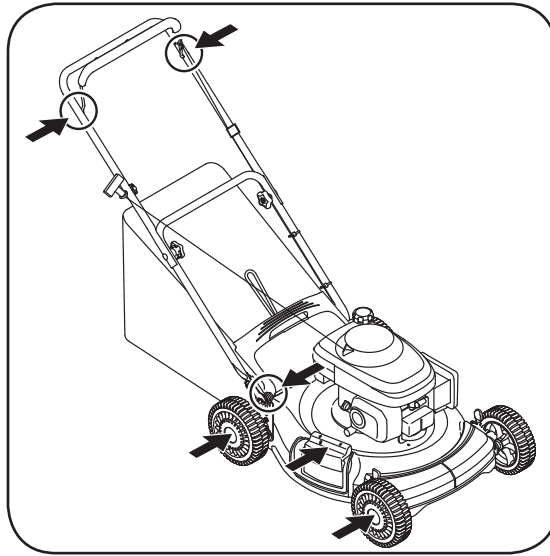

Figure 5-1: Areas of lubrication.
- Lubricate pivot points on the blade control at least once a season with light oil. The blade control must operate freely in both directions, Figure 5-1.
- Lubricate the wheels at least once a season with light oil (or motor oil). If wheels are removed for any reason, lubricate surface of the pivot arm and inner surface of the wheel with light oil, Figure 5-1.
- Lubricate the torsion spring and pivot point on the rear discharge door and side mulch plug periodically with light oil to prevent rust, Figure 5-1.